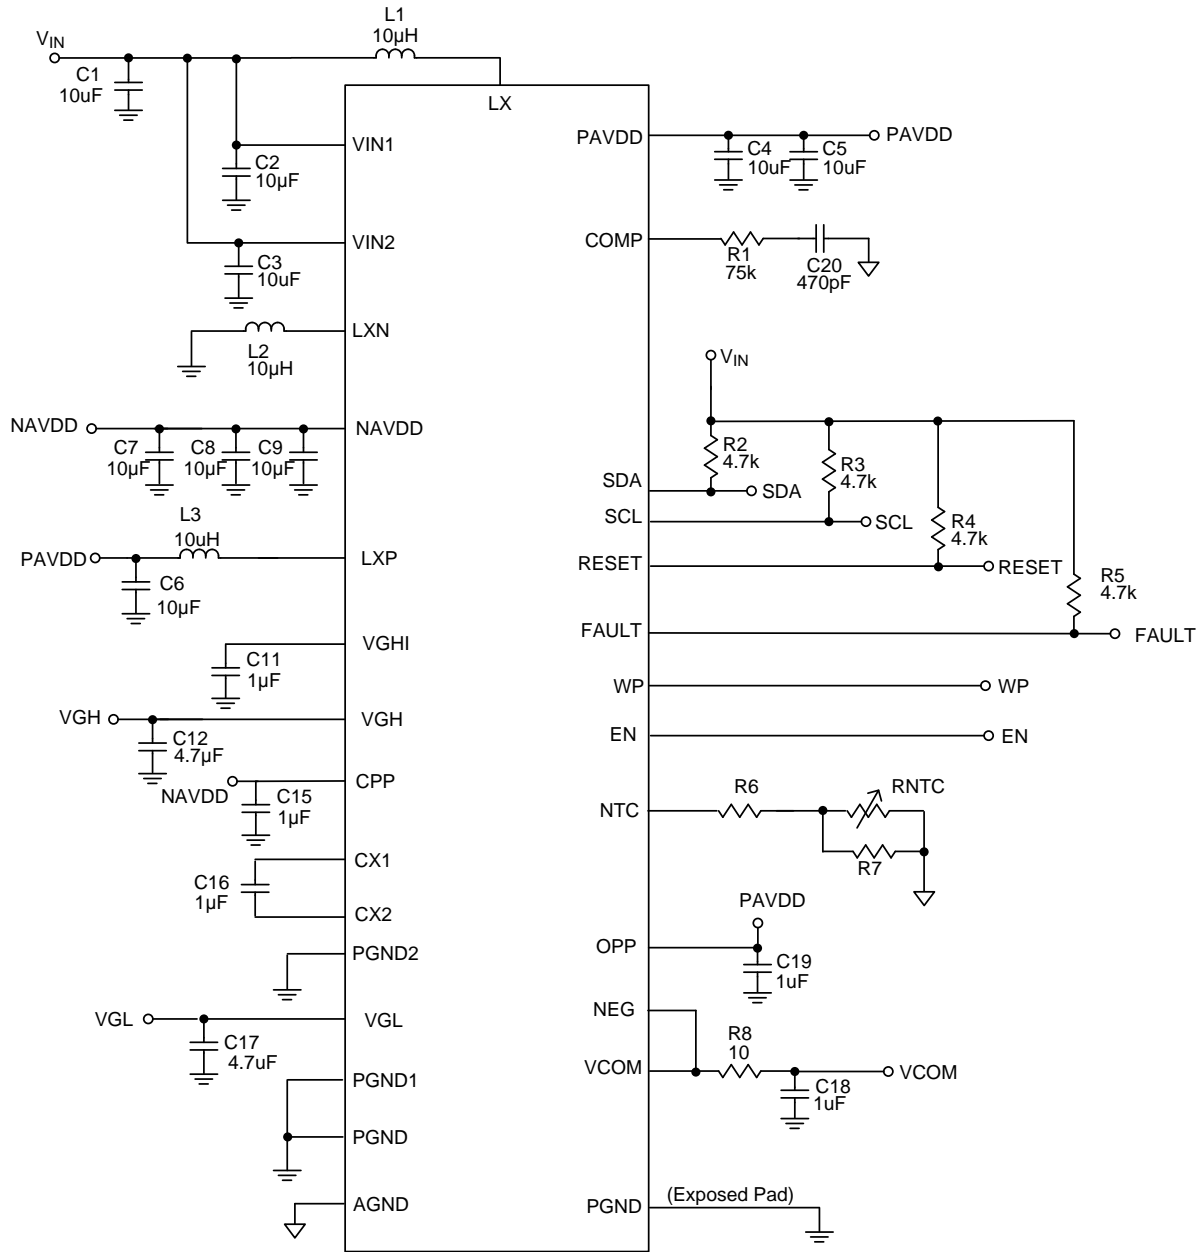

Figure 1. Typical Application Circuit with Internal Topology of VGL ( $PAVDD < |VGL| < PAVDD + |NAVDD|$ )
**Table 1. Component List of Figure 1 Recommended**